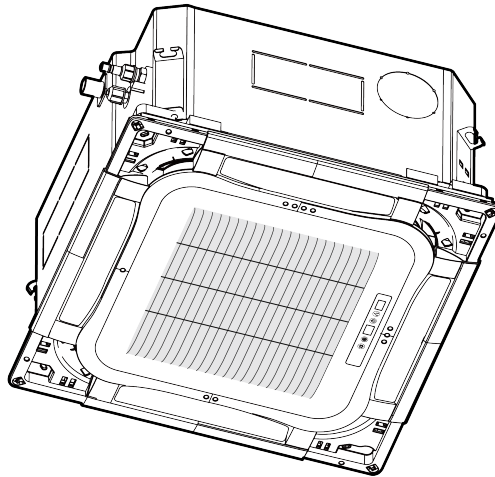

Fig.4.5.5
- (2) Adjust the position of panel to make the panel holes fix at the holes on the units.
- (3) Fix the 4 screws at the two side of panel, as shown in Fig.4.5.5.